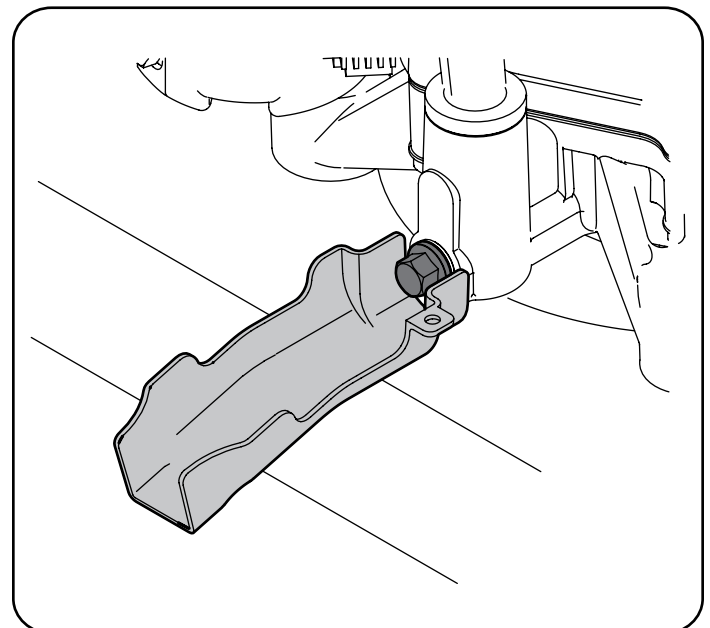

Figure 17
4. Snap the small end of oil drain sleeve onto the oil sump. See Figure 17.